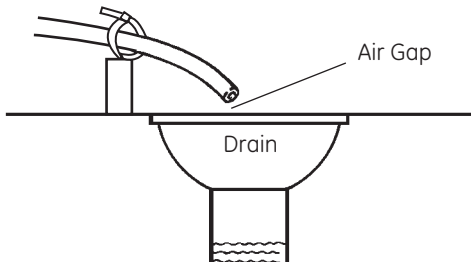

Figure 11
Where drain line is elevated but empties into a drain below the level of the control valve, form a 7-inch (18-cm) loop at the far end of the line so that the bottom of the loop is level with the drain line connection. This will provide an adequate siphon trap. Where a drain empties into an overhead sewer line, a sink-type trap must be used. Secure the end of the drain line to prevent it from moving (Figure 11).
**WARNING:** Never insert drain line directly into a drain, sewer line, or trap (Figure 11). Always allow an air gap between the drain line and the waste water to prevent the possibility of sewage being back-siphoned into the conditioner. Secure the end of the drain line to prevent it from moving (Figure 11).